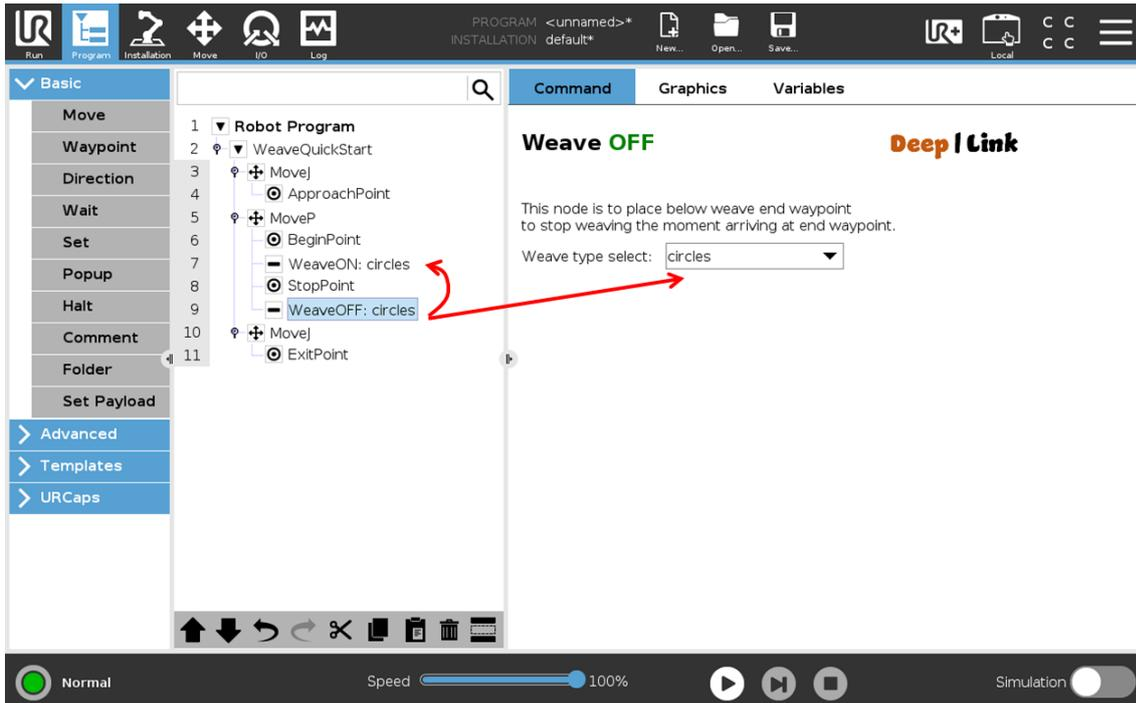

Figure 11 WeaveOFF node configuration example, make sure that the WeaveOFF type is same as WeaveON type.
**Attention: make sure the WeaveOFF type selection should be same as WeaveON type selection, as Figure 11 explained.**